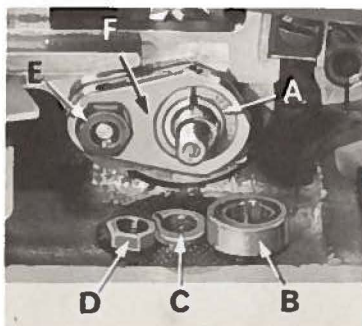

Fig. 7
Length of stitch is determined by feed eccentric used. In assembling the feed eccentric (A, Fig. 7), be sure the hub and oil groove is to the left. Beveled edge of feed eccentric spacer (B) should also be to the left side, so the undercut on the spacer will be over the hub on the feed eccentric. Be careful not to damage shaft or key. Assemble washer (C) and tighten nut (D) securely.